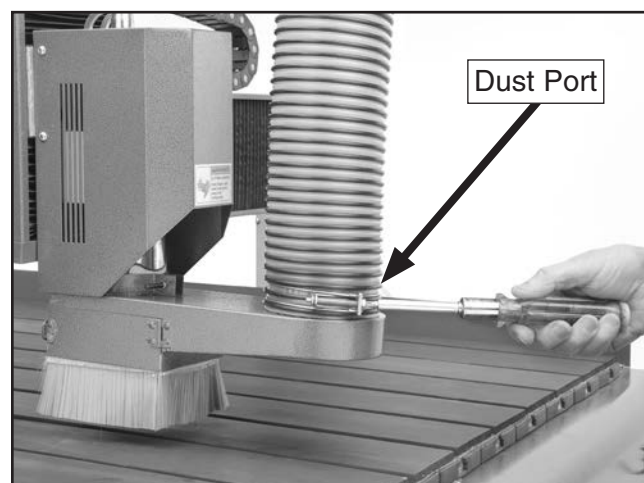

Figure 17. Tightening dust hose clamp.
2. Fit 4" dust hose over dust port and secure in place with hose clamp (see **Figure 17**).